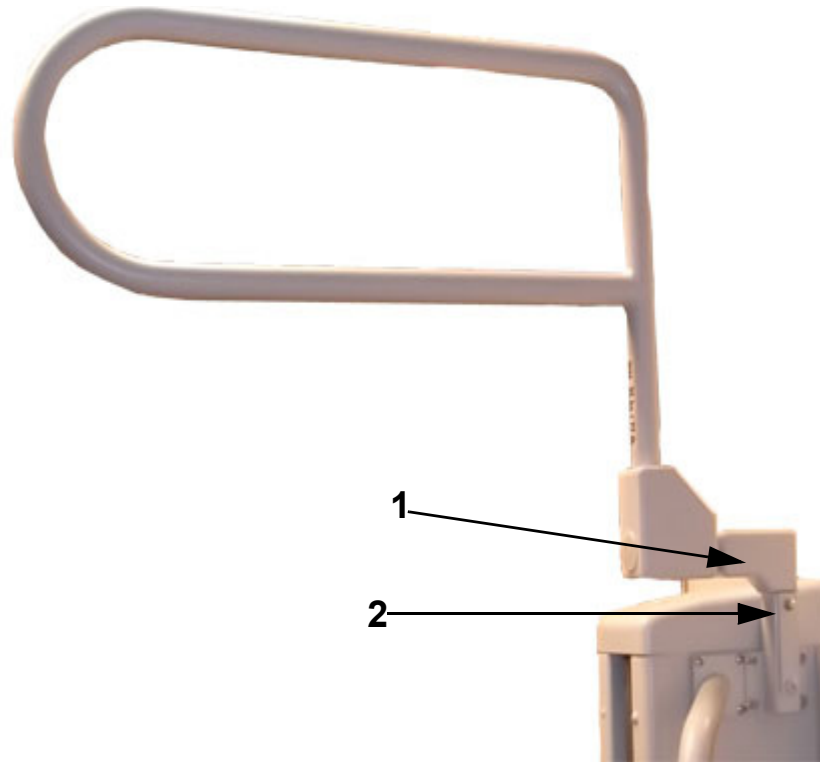

Figure 2-25. Handgrip Insertion
Insert the handgrip post (1 in Figure 2-25) into the socket (2) on the back of the wallstand. There are two sockets available - either can be used.